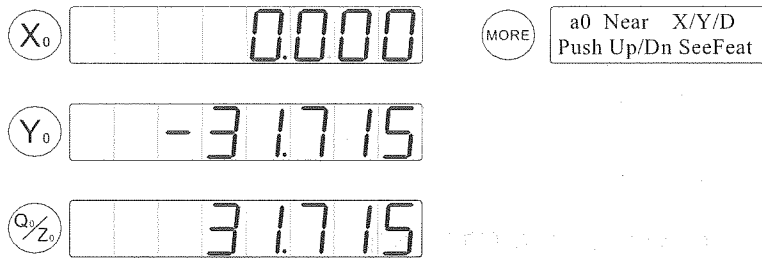

Figure 2-37 Distance Message
d. Press the **MORE** key to view another message. (Figure 2-37 and 2-38).